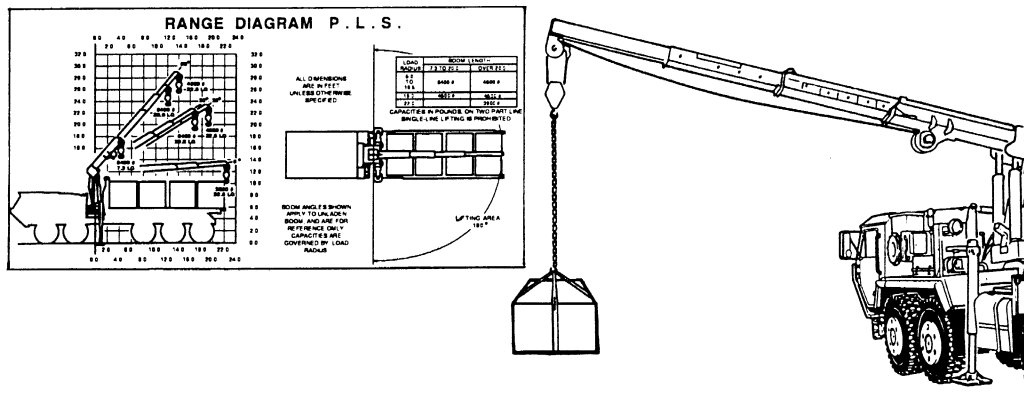

Figure 1-23. Overload Shutdown
d. **Overload Shutdown.** The crane is provided with an overload shutdown (Figure 1-23) which precludes structurally overloading. Two block and overload conditions are sensed through line-pull of the hoist. A preprogrammed micro-processor that is constantly comparing boom angle, boom length and hoist line pull activates solenoid valves in the telescope out, lift up, lift down and hoist up circuits when the unit is overloaded or two-blocked. During an overload condition, the crane's function cease. Hoist down, telescope in and swing in either direction can be used manually to bring the crane to a safe position.